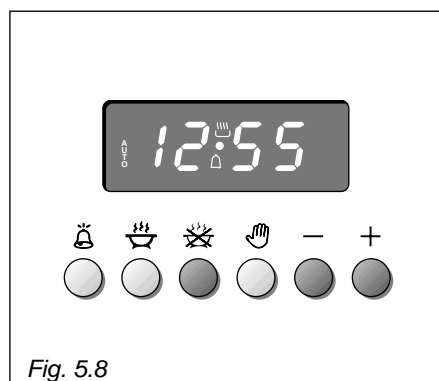

Fig. 5.8
2. Set the time you need the food to stop cooking by pushing the ☒ button and the ⊕ button to advance, or ⊖ to go backwards if you have passed the desired time (Fig. 5.8).